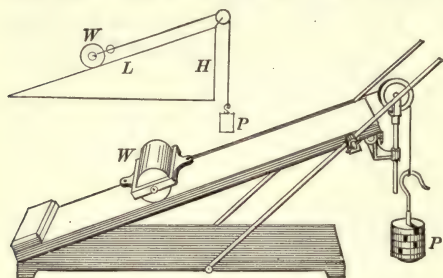

FIG. 31. — Inclined plane.
Suppose we arrange a very smooth plane, such as a piece of plate glass, at an angle, as shown in figure 31. Let the weight or load (W)